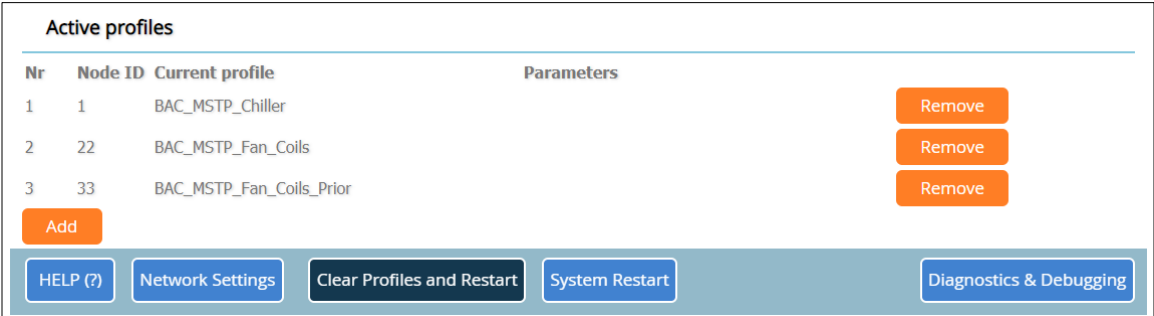

Figure 18: Web Configurator Showing Active Profile Additions
- Completed additions are listed under “Active profiles” as shown in Figure 18.